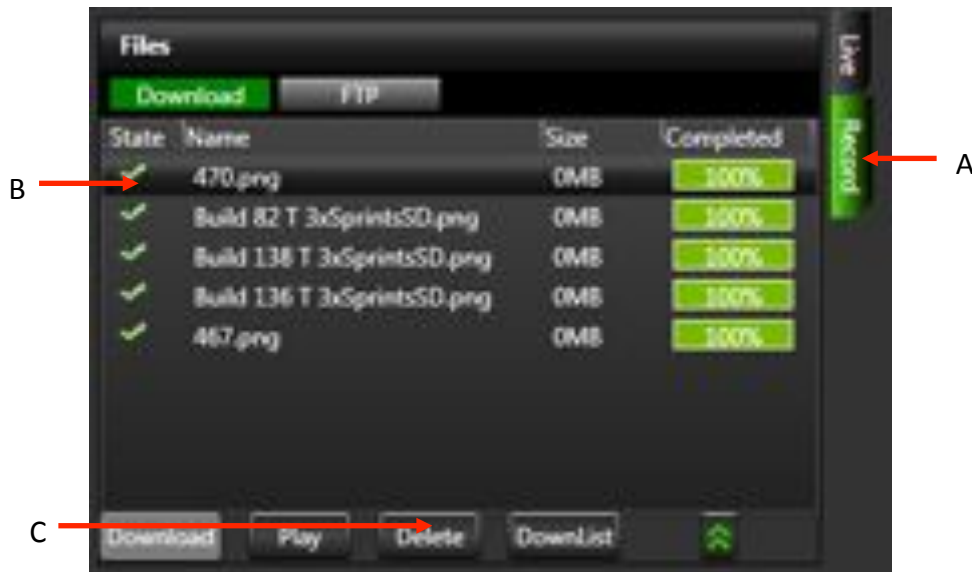

Figure 13 Delete stored content screen
1. On the TVUPack Receiver screen, select the Record tab (A) (Figure 13).
2. Select the file you would like to delete (B).
3. Click the Delete button (C).